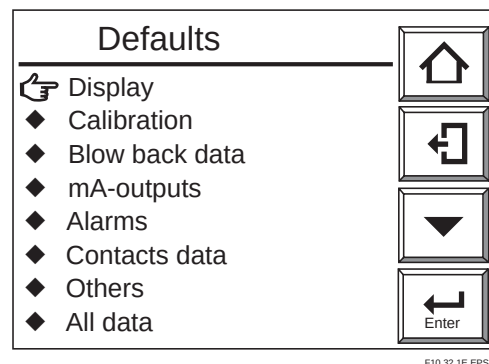

Fig. 10.32.1 Defaults Display
- 2) Select [Commissioning], next [Others] then [Defaults]. A display like Figure 10.32.1 appears.